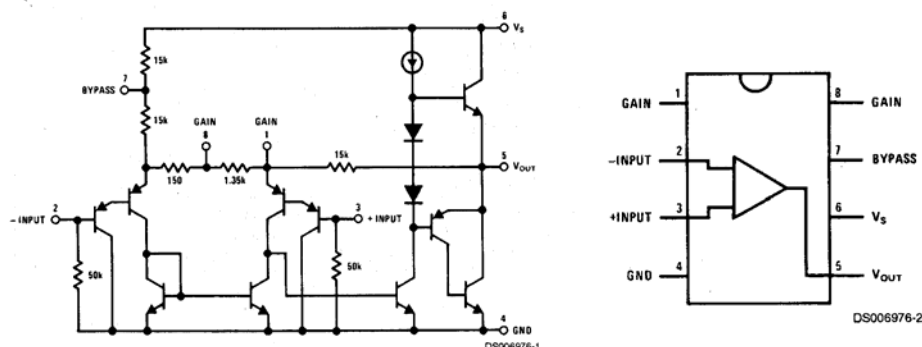
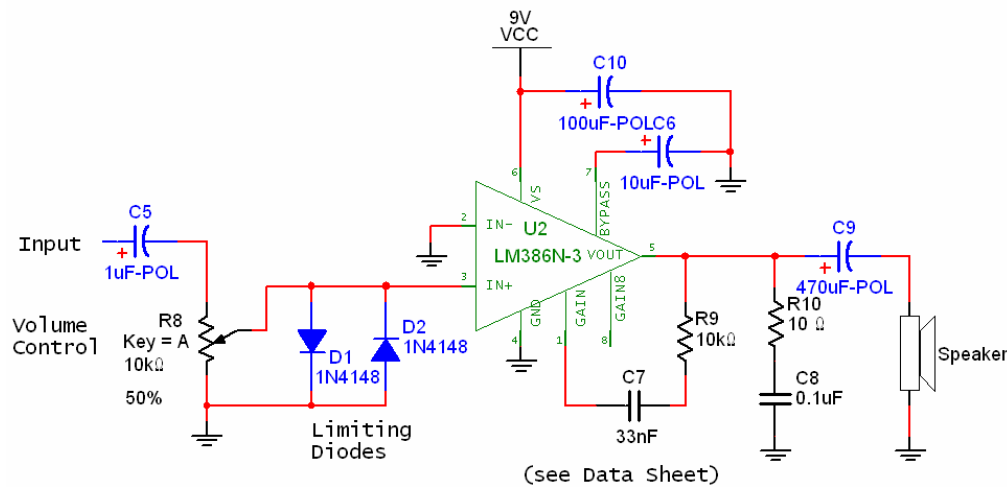

Figure 1-5 – LM386 internal circuit and 8-pin DIP pin assignments.
Figure 1-7 – Schematic of LM386 Amplifier.
At first glance this project looks simple; all we need is an amplifier to drive an audio speaker, right? Why not just use a simple op-amp gain stage? Well, one immediate challenge is that speakers have a low impedance, typically 8-Ohm. Even for a low-power 0.5W audio amplifier, $P = I^2 R / 2$ requires that the amplifier must be able to source a peak AC current of around 350 mA with an 8-Ohm load. This is a lot more than a typical op-amp is designed to provide. For example, the LM358 and LF353 (two op-amps used in this lab) can source around 20-40mA at most. So we need a device that can handle higher currents. We also want a device that can be operated from a single supply voltage (a battery in this case). It is possible to make a suitable amplifier using an op-amp and a couple of external power transistors, but we went with a simpler solution, and chose a chip that was specifically designed as an audio driver, the LM386, shown in Figure 1-5.
The schematic for an LM386-based amplifier is shown in Figure 1-7. We will first construct this amplifier using your plastic solderless breadboard and bench power supply. Once you debug the circuit and demonstrate that it works properly, you will “hard-wire” it onto a vectorboard and power it from a 9V battery. The idea of breadboarding the circuit first is not to create more work! It is good practice in general, since it allows you to debug your design more easily, allows you to experiment with component values, and more importantly will help preserve your battery!
- First study the schematic carefully, and locate all the necessary parts in your kit. Find the LM386 chip and compare it with Figure 1-5 and the schematic in Figure 1-7 to correlate pin numbers with the circuit connections.